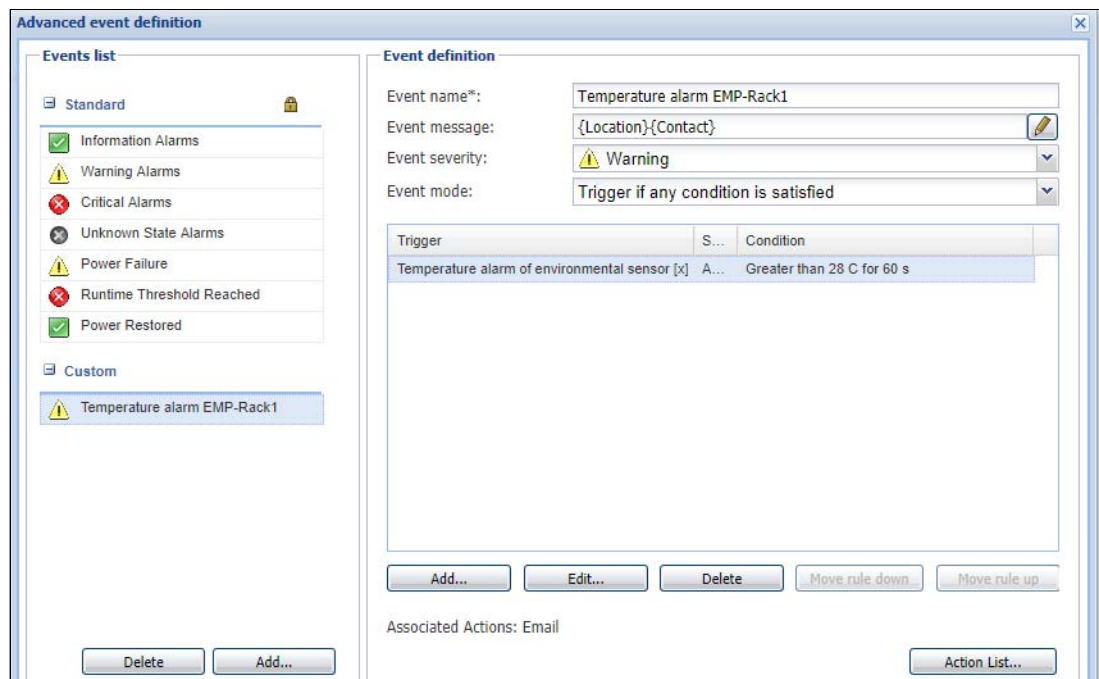

Figure 43 Saved trigger
- Fill in the Event definition fields in Figure 43, which include the following: